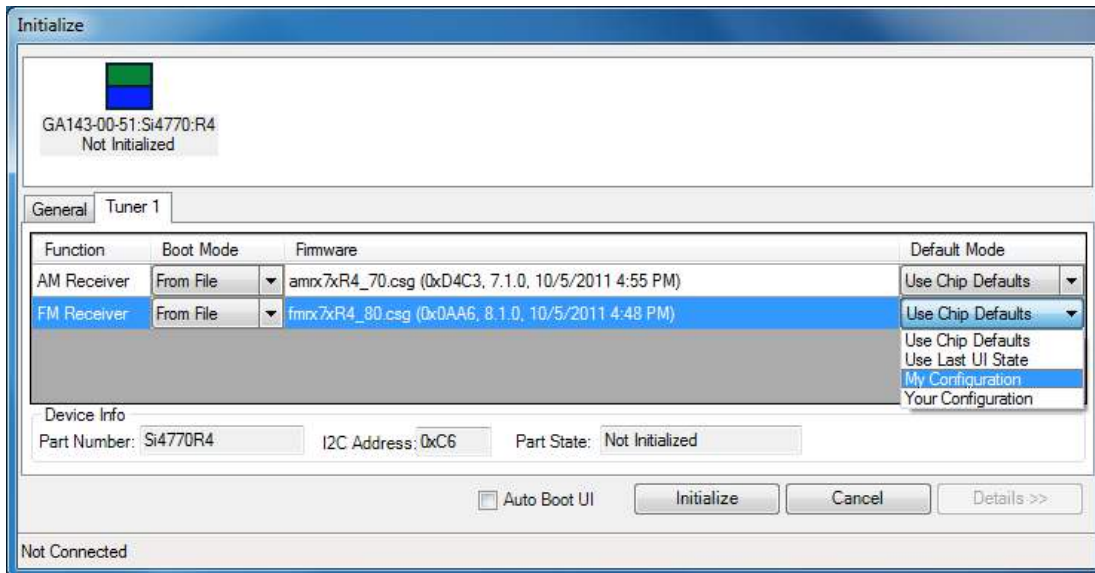

Figure 12. Saved Configuration State
1. Go to File → Initialize → Tuner 1 tab as shown in Figure 12. The different states which were saved before are available in the default mode for user selection.